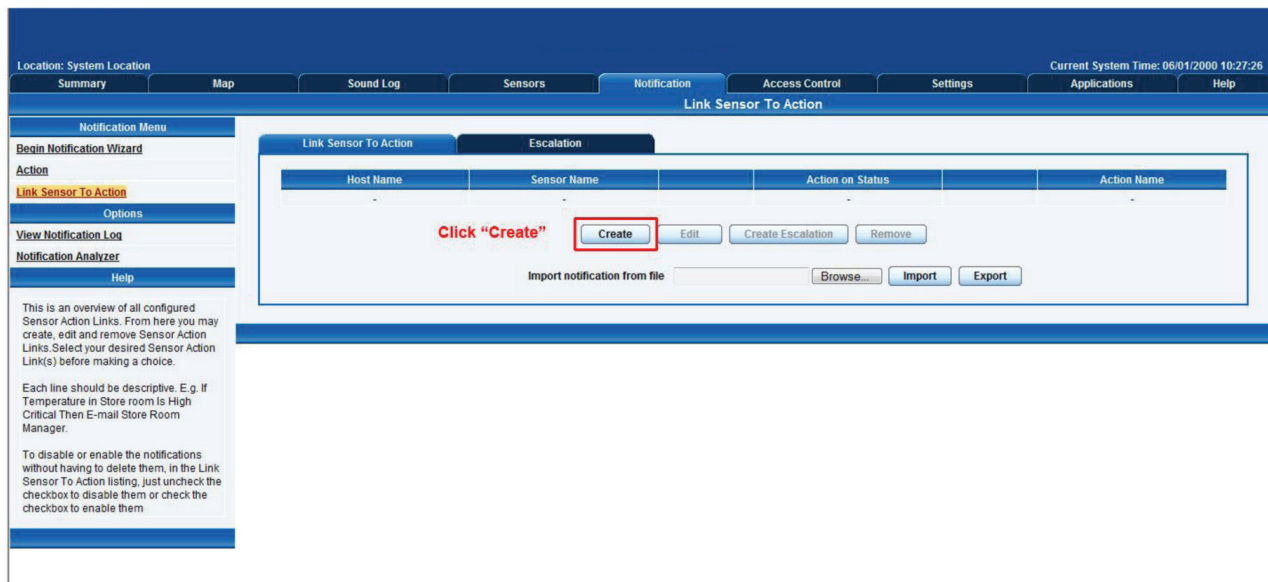

Figure 4-7. Notifications tab.
- Once we have created the parameters for the SNMP trap, we need to make it active. To do this, go back to the "Notifications" tab. (It should look like the screen shown in Figure 4-7.) Click "Create."